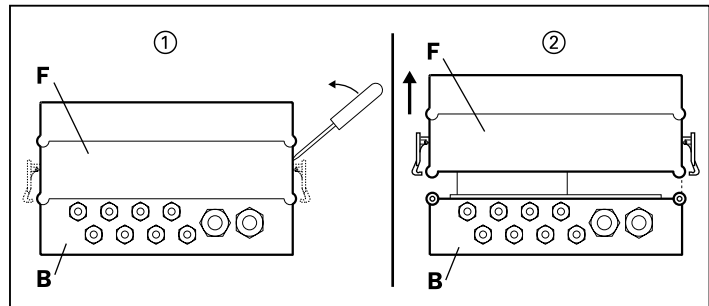

Fig. 4-1: IP 65 housing, removing the front section of the housing
1. Use a screwdriver to open the hinged clip locks ① and remove the front section of the housing ② (see Fig. 4-1).